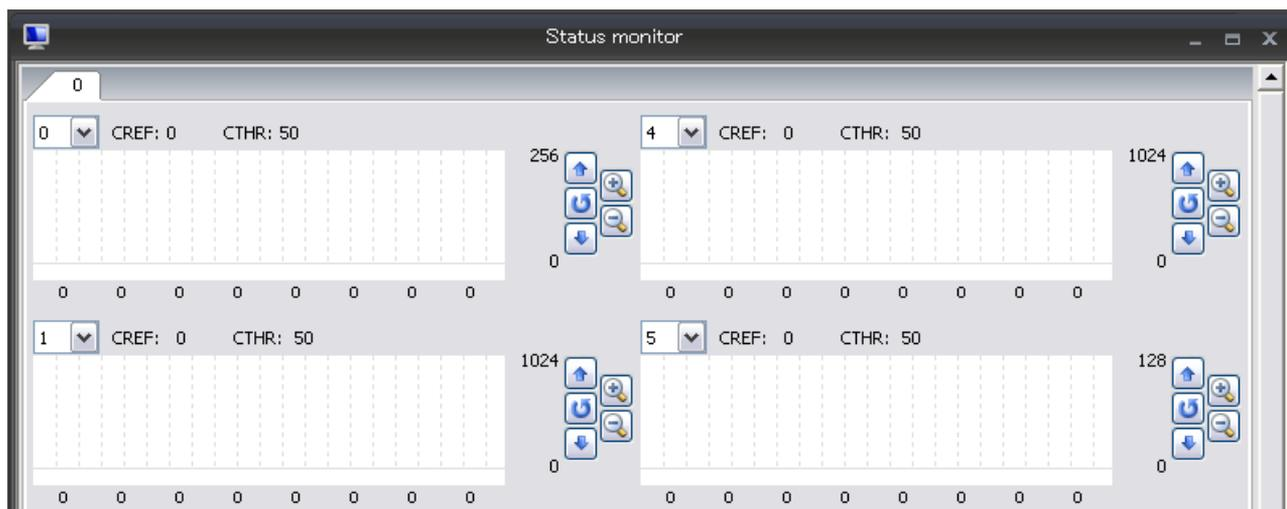

Figure 2-9 Touch Measurement Value: 0
- Whether or not the touch measurement values indicate zero as shown in Figure 2-9.
The measurement values indicating zero as shown in Figure 2-9 are attributed to overflow of the measurement counter. In this case, the following countermeasures must be taken.